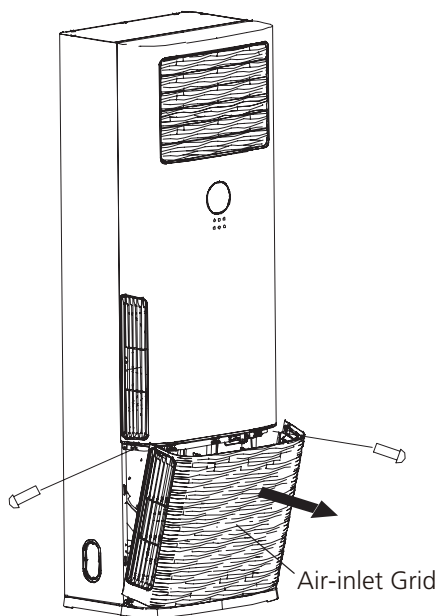

Fig. 8.4
6. Please take off the air-inlet grid before connecting the pipes/wires. First remove the screws cover, then remove the screws on the air-inlet grid, then take off the grid. (See Fig. 8.4)